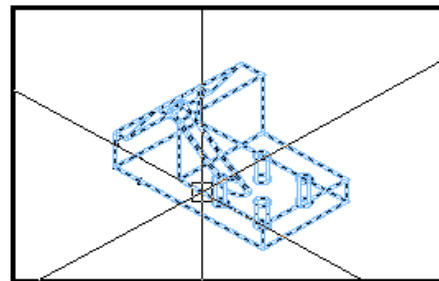

Figure Step 14A
Step 14 Go to model mode and select the isometric view as the current viewport. Enter the SOLPROF command as shown below. See Figure Step 14A and 14B.